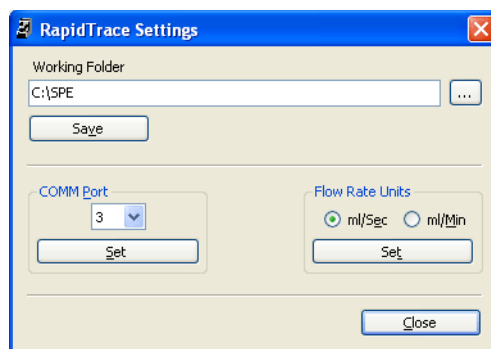

Figure 5. Settings Dialog Box
- 2 Select the **Settings** menu. The **Settings** dialog box opens as shown in Figure 5.